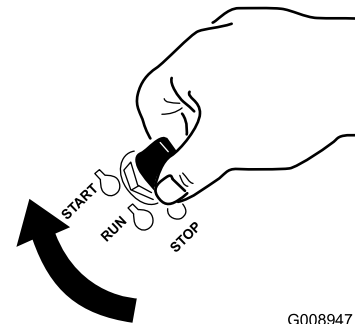

Figure 21
1. Turn the ignition key to the START position (Figure 21).